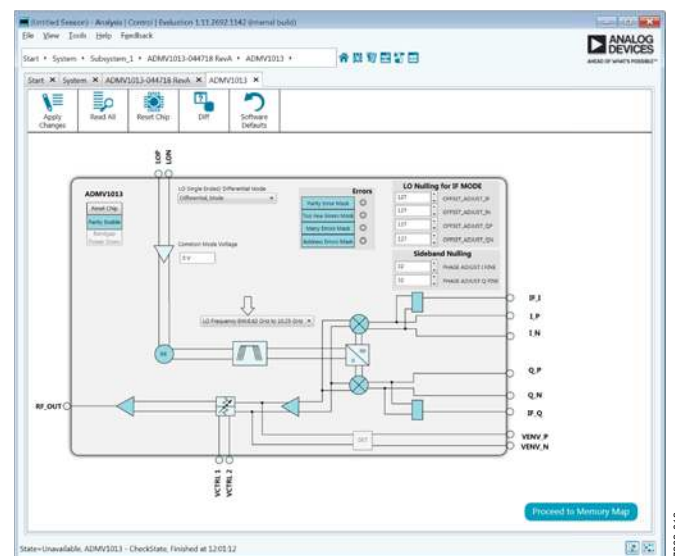

Figure 13. ADMV1013 Block Diagram in the ACE Software
7. Double click the **ADMV1013** button shown on the right side of the window, and click **Reset Board** each time the USB is plugged into the PC for optimal performance. When the **ADMV1013** button is double clicked, the **ADMV1013** block diagram shown in Figure 13 appears.